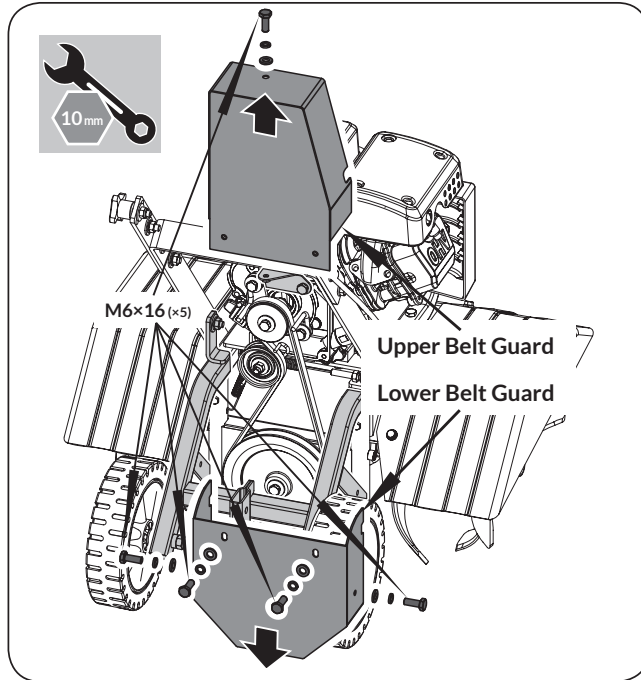

Figure 13a
1. Remove the one bolt in the upper belt guard and four bolts in the lower belt guard to expose the belt assembly. (See **Figure 13a**)